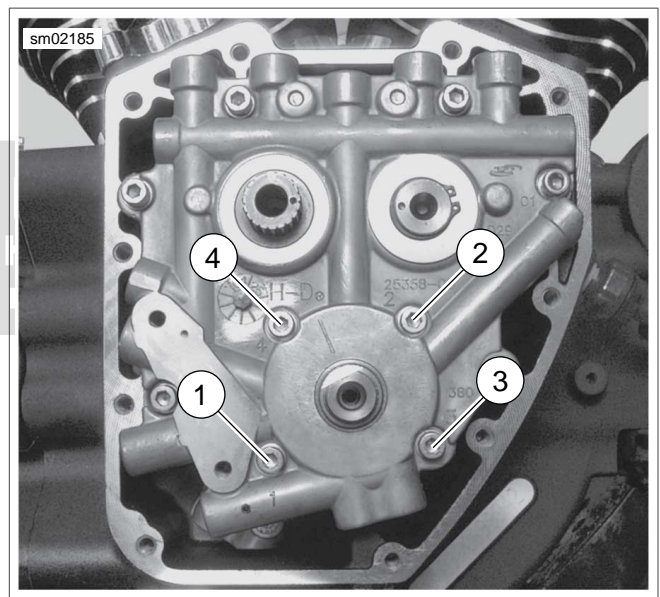

Figure 3-62. Oil Pump Torque Sequence
6. See Figure 3-62. Install oil pump.